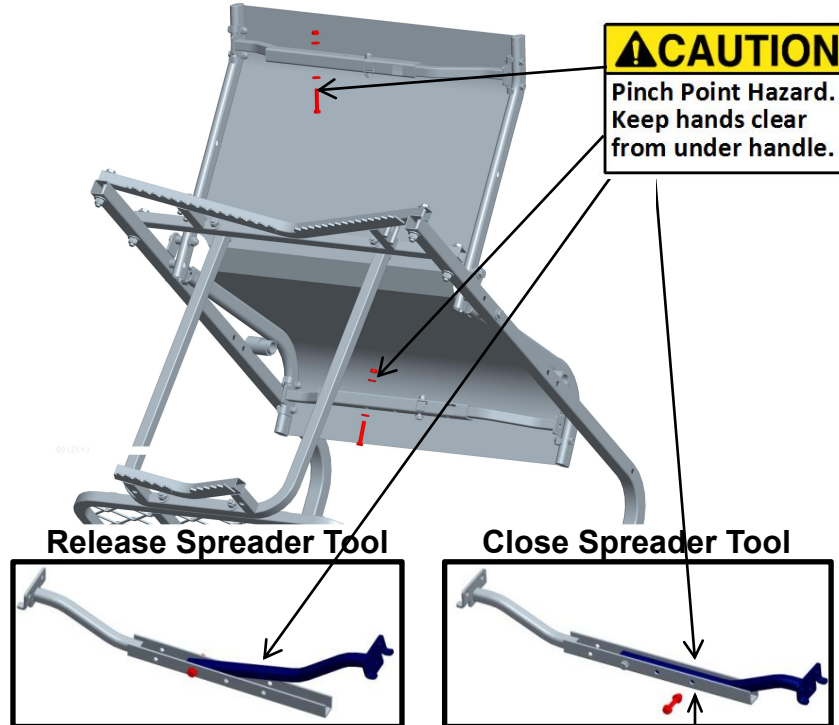

Figure 12 Close Spreader Tool
Close two spreader tools and secure with two (2) M6x35 Bolt, four (4) Steel Washers and two (2) Locknut as shown in Figure 12. Securely tighten bolts.